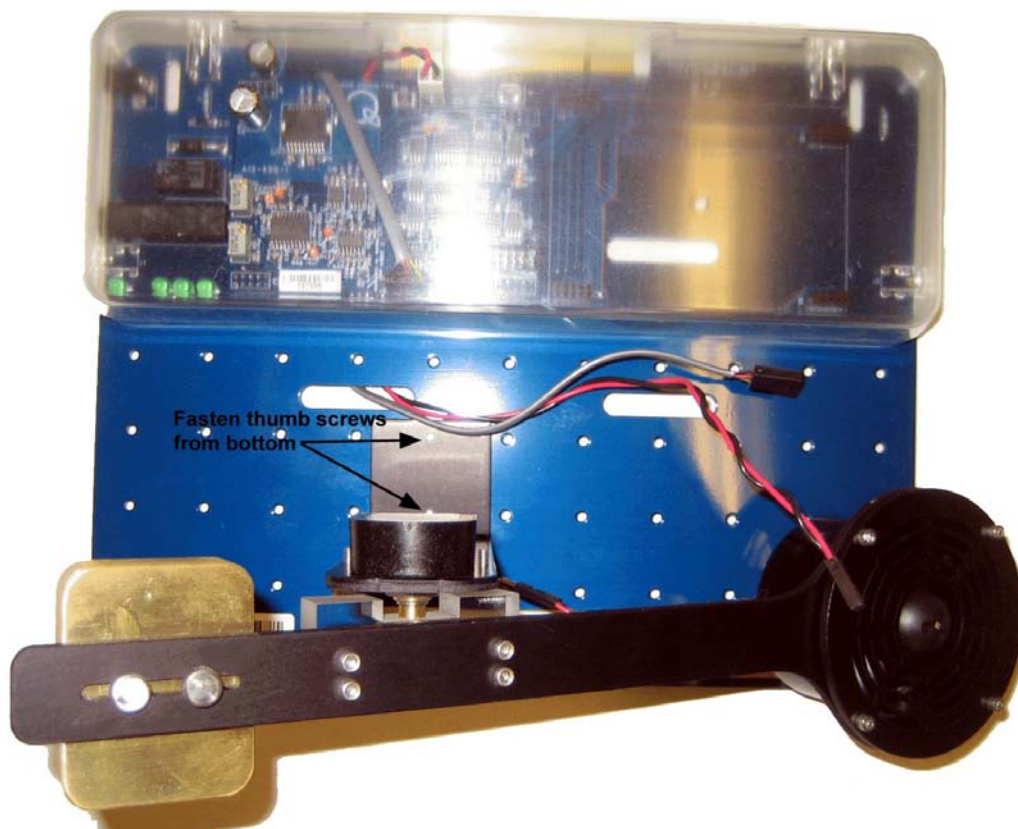
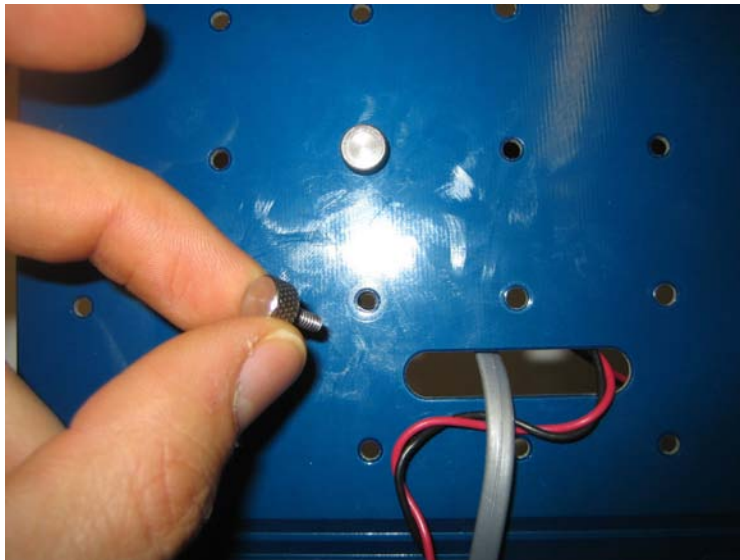

Figure 35: Tighten the two thumbscrews from the bottom of the module to the screw holes on the VTOL anchor base.
Figure 36: Tightening the two thumbscrews from the bottom of the module.
5. Bring the support arm in the upright position and align the two screw holes located on the base with two holes on the QNET module board. This is illustrated in Figure 35. Tighten the two supplied thumbscrews from the bottom of the module board to fasten the board onto the VTOL body base, as shown in Figure 36.